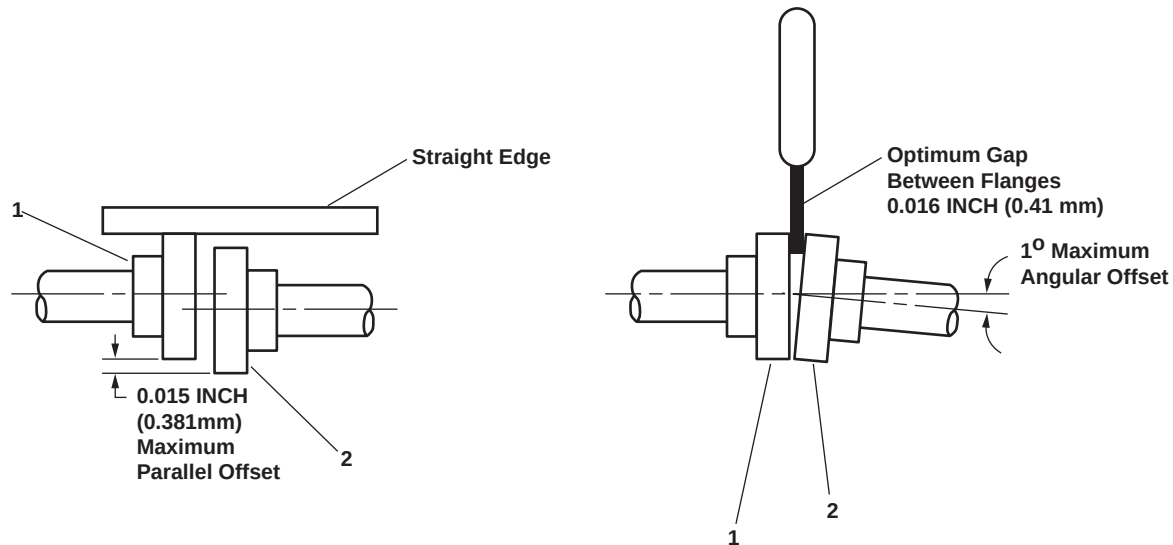

Figure 4. Alignment of Pump Coupling Flange and Motor Coupling Flange
3. Align the motor coupling flange (figure 4, item 1) and the pump coupling flange (figure 4, item 2), leaving approximately 0.016 inch (0.41 mm) space between the both flanges.
4. To check the alignment between the motor coupling flange (figure 4, item 1) and the pump coupling flange (figure 4, item 2):
- a. The maximum angular offset shall be 1 degree, and maximum parallel offset shall be 0.015 inch (0.381 mm). Refer to figure 4.